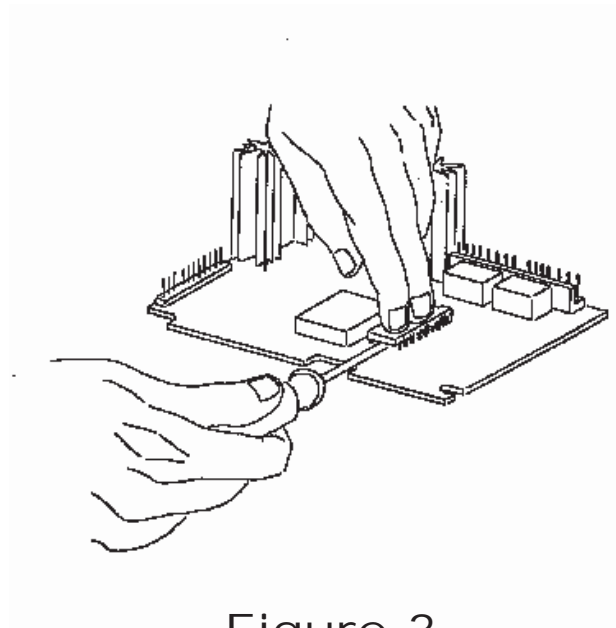

Figure 3
1. Refer to Figure 3 and locate the EPROM at U1 on the circuit board.